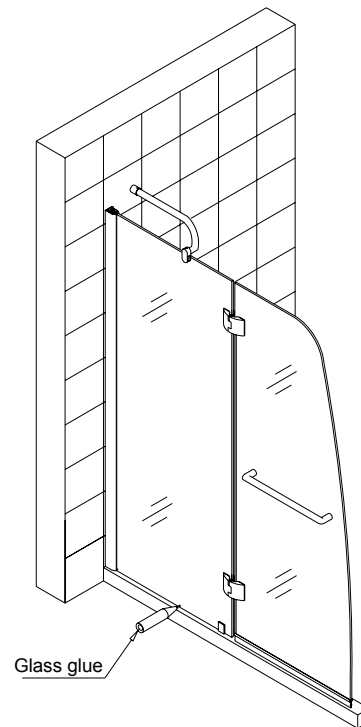

Fig 8
8. Apply caulk (recommended 100% clear silicone) inside and outside along the bottom of the stationary glass. See Fig.8 for details.